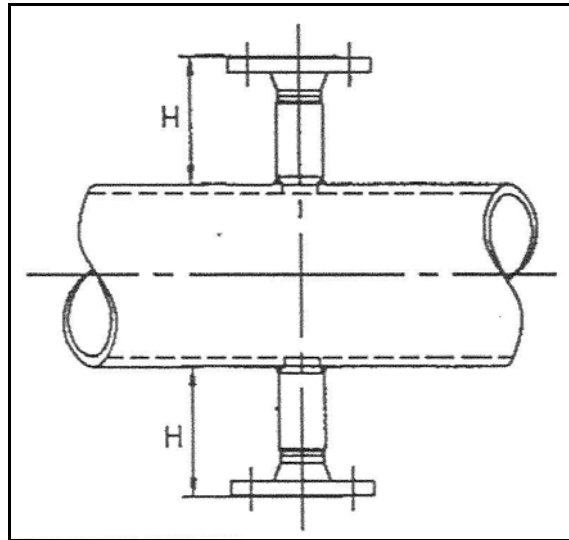

fig. 9 H-dimension
It is particularly important to make sure that the distance from the gasket surface to the pipe agrees with the H-dimension you gave in your order (Fig. 9).
- 3.) Take care of the H-dimension (fig. 9)!
- 8.) Tack the second mounting stud with 1-2 mm clearance onto the pipe, analogously item 2.
- 9.) Take care of the H-dimension (fig. 9)!